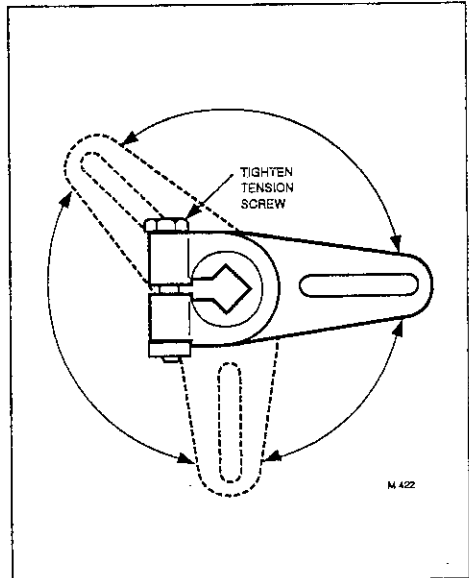

Fig. 3—Locate crank arm to the desired position.
2. Tighten the tension screw securely after locating the crank arm in the desired position (see Fig. 3).